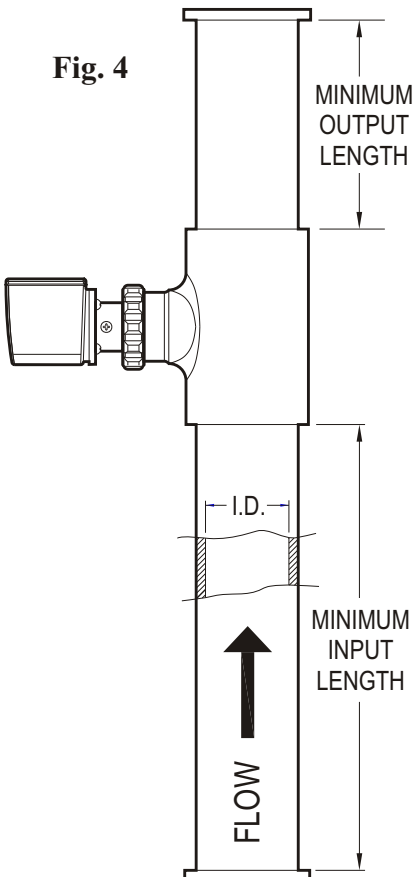

Fig. 4
- The F-1000 can be mounted on horizontal or vertical runs of pipe (see figure 4, 5 and 6). Mounting at the twelve o'clock position on horizontal pipe is recommended. Mounting anywhere around the diameter of vertical pipe is acceptable, however, the pipe must be completely full of water at all times. Back pressure is essential on downward flows.
- The F-1000 can be mounted on horizontal or vertical runs of pipe. Mounting at the twelve o'clock position on horizontal pipe is recommended. Mounting anywhere around the diameter of vertical pipe is acceptable, however, the pipe must be completely full of water at all times. See figure 4, 5 and 6.
4.6 HOW TO INSTALL MOLDED PVC TEE FITTINGS (TE)